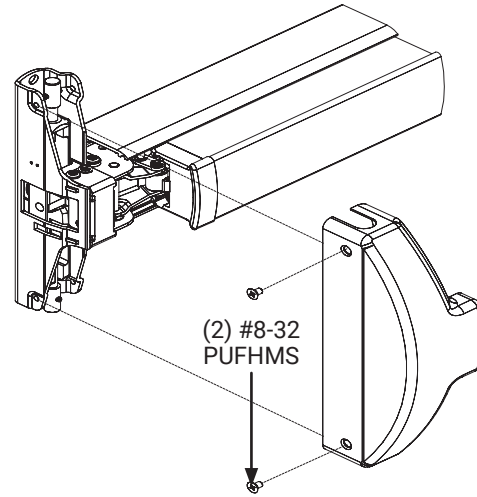

Figure 28
1. Secure device assembly cover with two (2) #8-32 x 5/16" (7.94mm) PUFHUMS. Fully tighten screws (Figure 28).